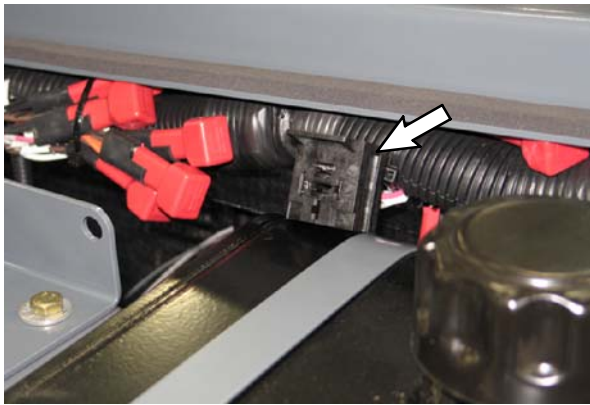

FIG. 12
22. Plug the flasher (5) into the main harness and tuck the flasher/harness connection back up into the main harness. Refer to Fig. 12.